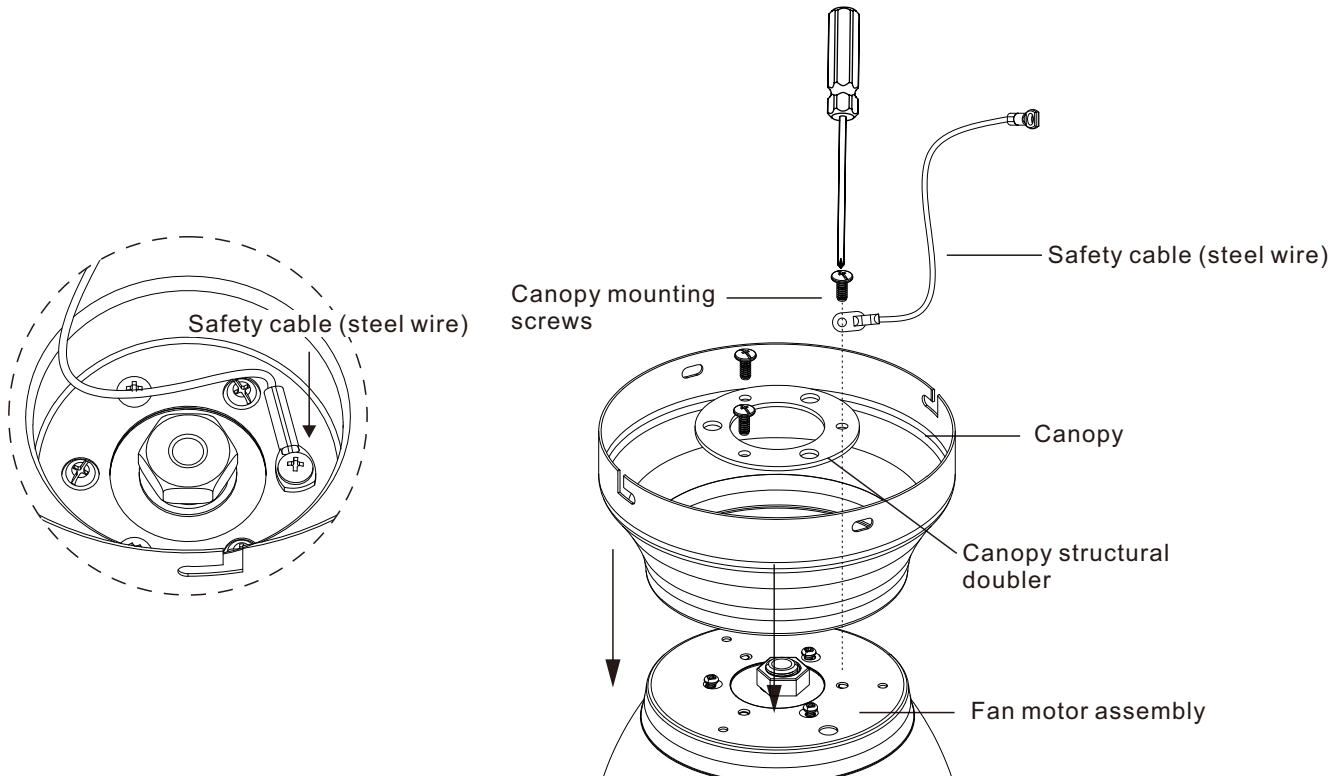

Figure 11
Step 4. Thread the fan-motor wires through the canopy. Align the six mounting holes with those on the motor keep the three larger holes over the pre-installed screw heads then secure everything with the supplied canopy screws, structural doubler and safety cable (Fig. 11)